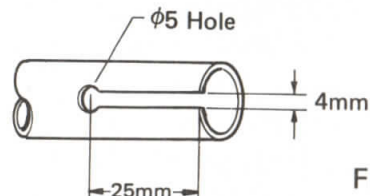

Fig. 12
- 58** Drill and cut the small-diameter end of the tail boom as shown in Fig. 12.